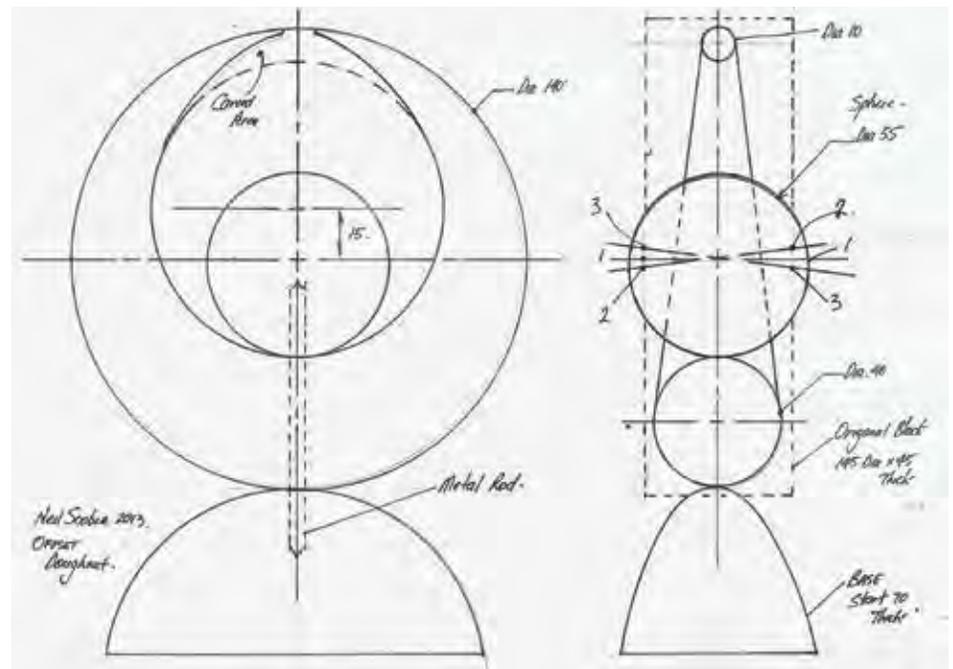

Figure 2. Front and side view of doughnut sculpture. On the side view, note the positions of centers #1, #2, and #3. (Numbers are millimeters.)
2. Mount the blank onto the lathe, placing the true centers (#1) between the drive and tailstock centers. True the blank and turn the outer curve of the form on the tailstock side (*Photo 2*), referring to *Figure 2* for guidance. A $\frac{3}{8}$ " or $\frac{1}{2}$ " (10mm or 13mm) deep-fluted bowl gouge works well, rolling the tool on its side and using the cutting edge on the bottom half of the tool.